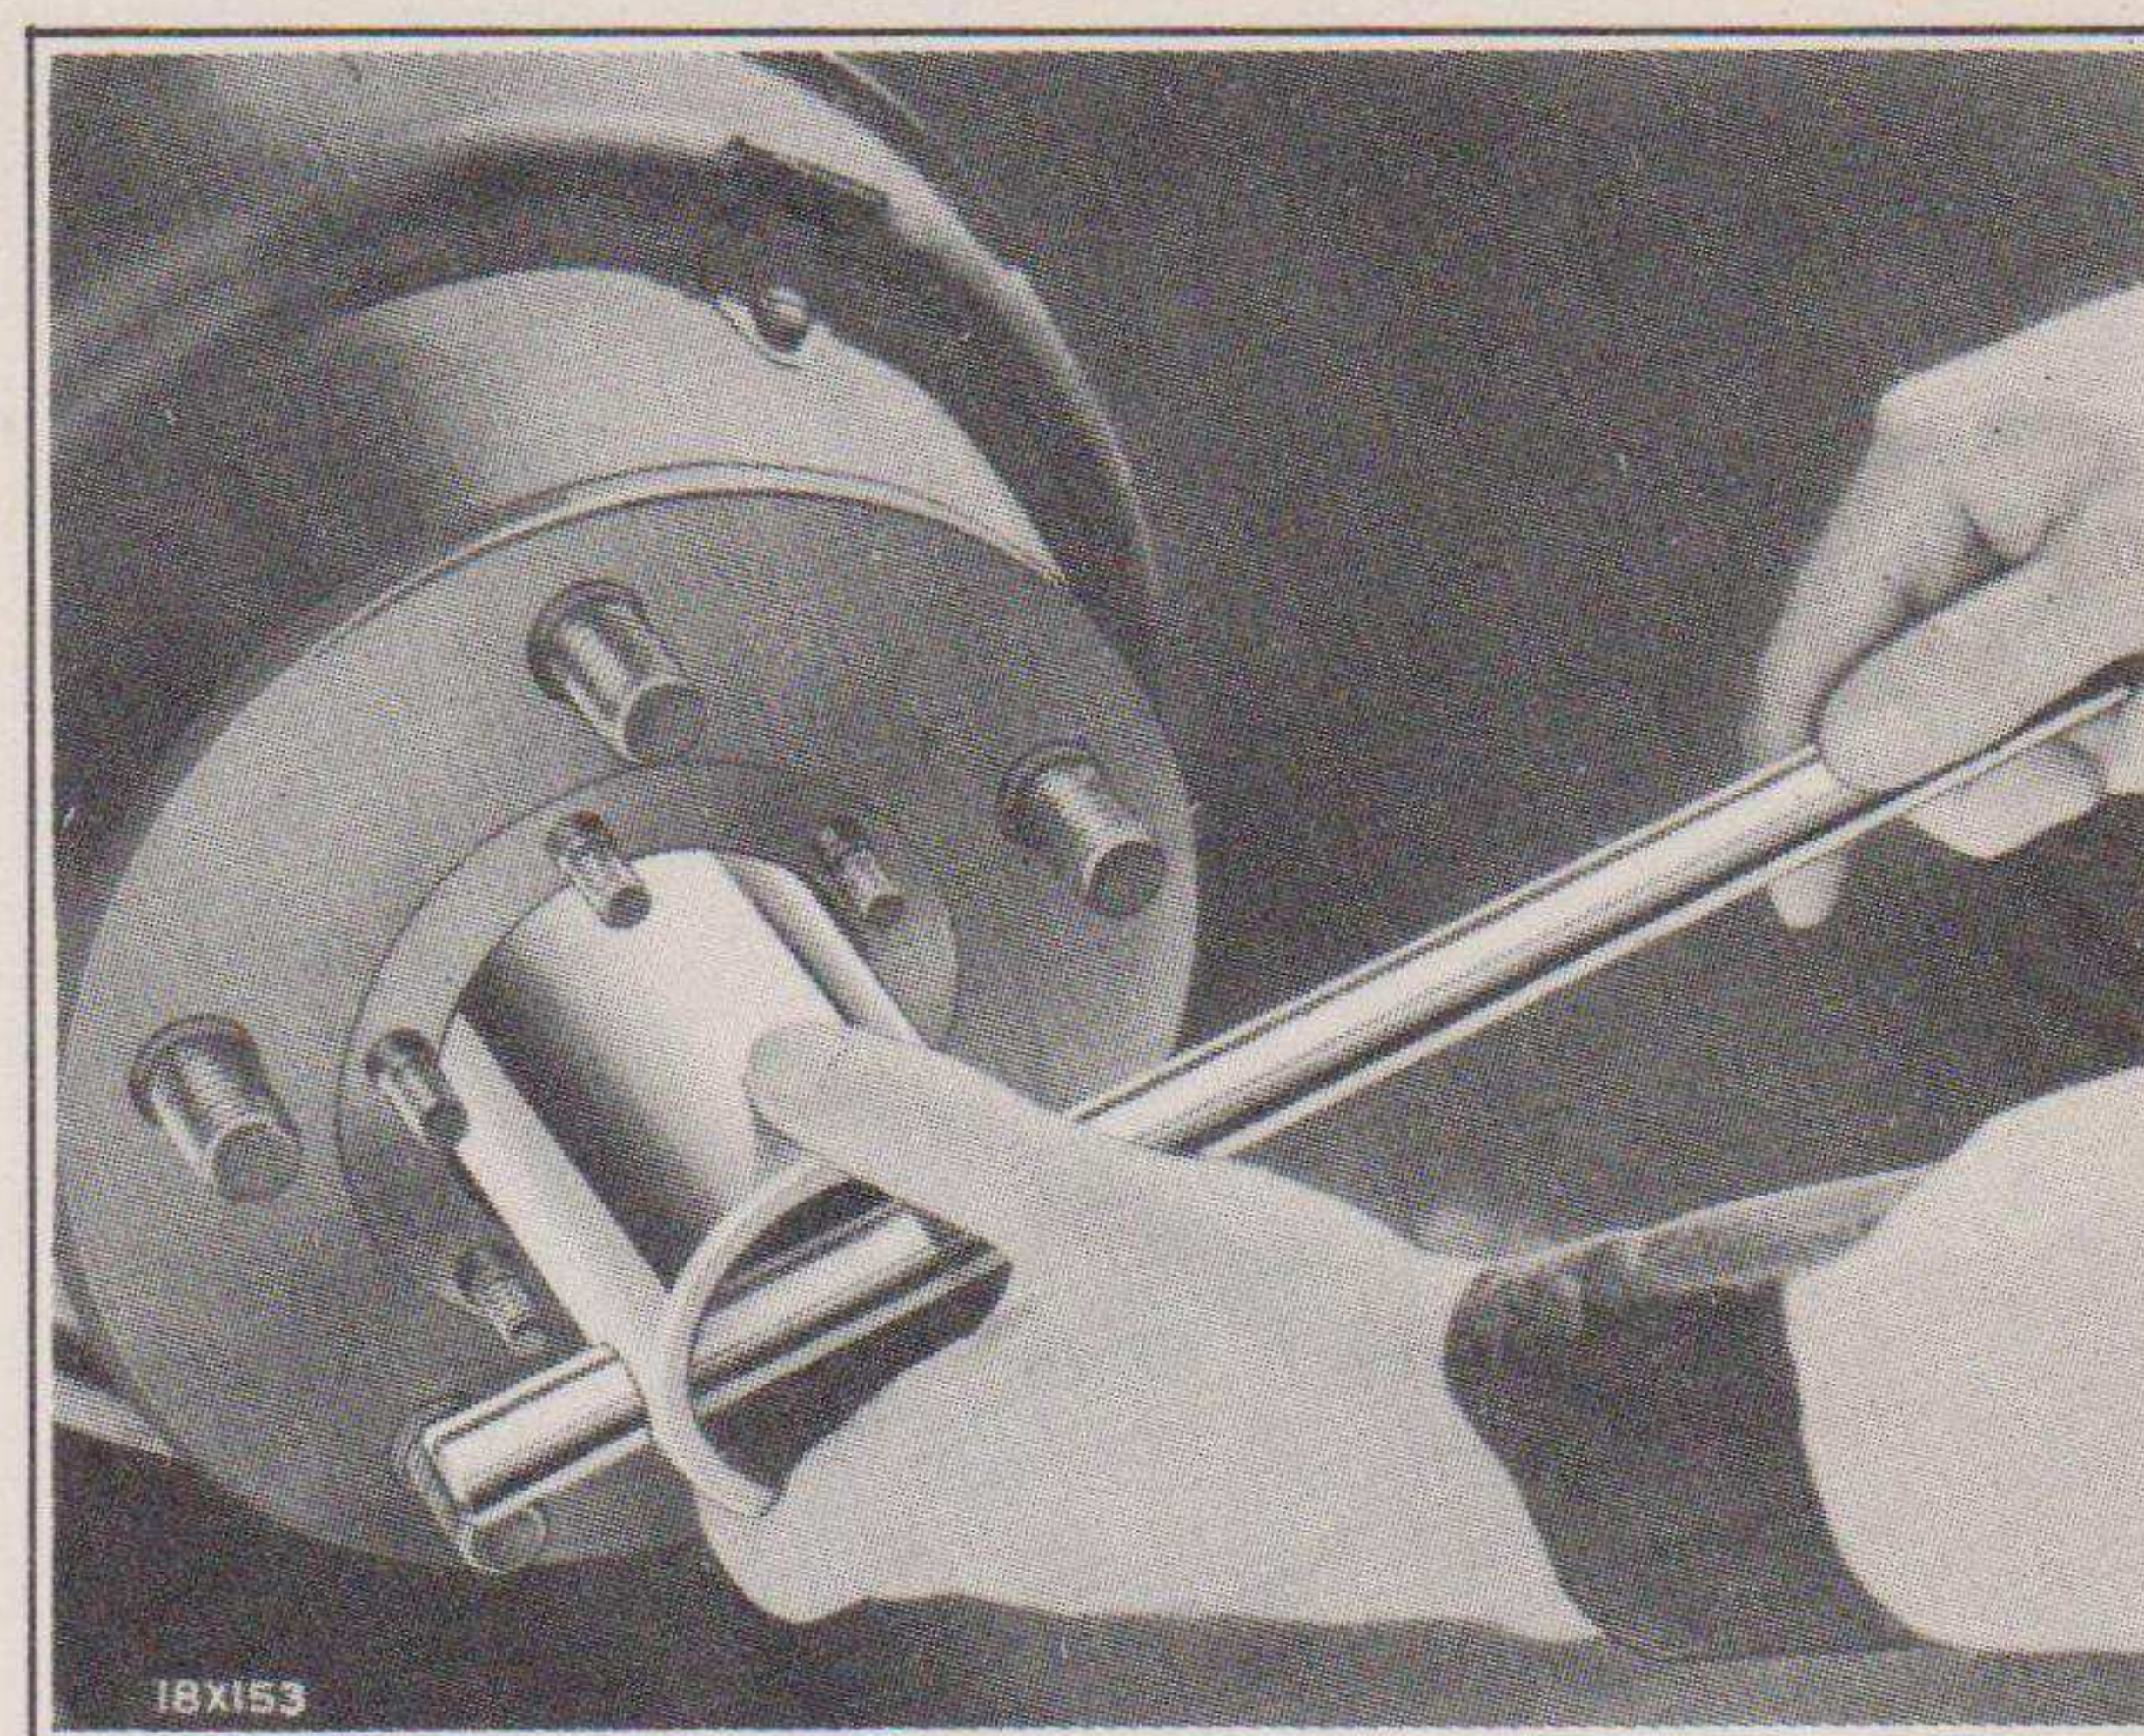

Fig. 35—Removing Front Wheel Bearing Adjusting Nuts or Adjusting Bearings (Tool DD-824)
- (f) Unscrew the wheel bearing outer adjusting nut, using special tool DD-824, as shown in Fig. 35, and remove the inner adjusting nut lock.
- (a) Remove the axle drive flange, the bearing outer adjusting nut and the adjusting nut lock. See Subject 43. Then turn the hub bearing inner adjusting nut with special tool DD-824 (see Fig. 35) until the bearings are tight so that the wheel cannot be shaken by hand, but can be rotated without